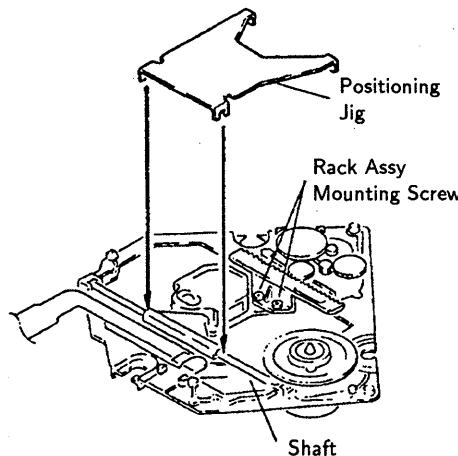

Fig. 2
- (2) Place the positioning jig on the mechanism as shown in figure 2.